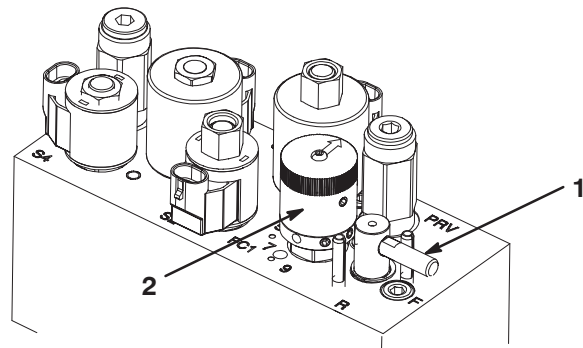

Figure 59
5. Rotate the Backlap Lever to the "R" position (Fig. 59).
6. Rotate the Reel Speed Control to setting 1 (Fig. 59).